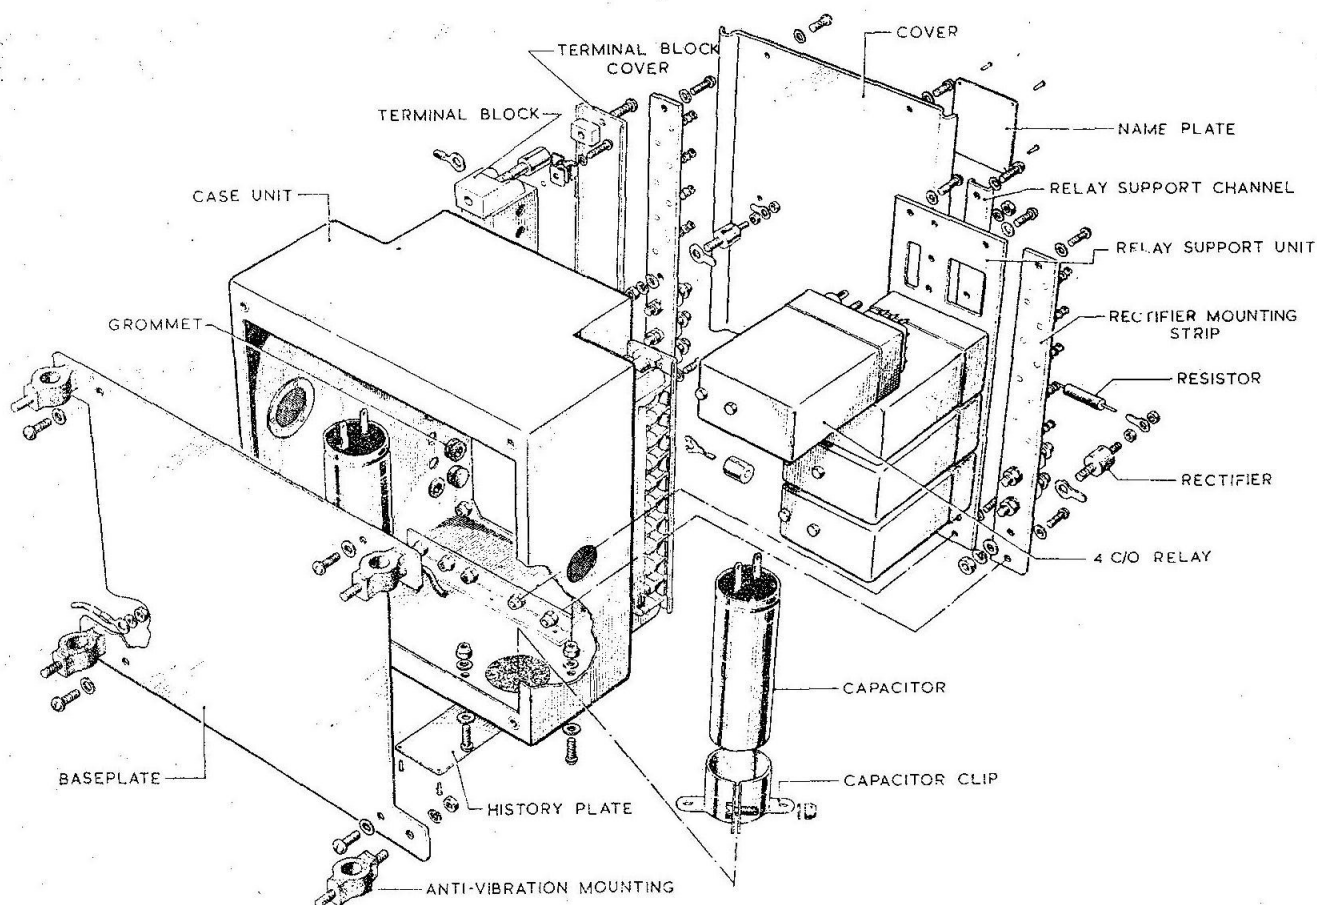

Fig. 1. Braking control unit (exploded view)
2. The braking control unit (*fig. 1*) comprises the following main components: casing, terminal blocks, relay support and relays, rectifiers with mountings, capacitors, and internal wiring connections.